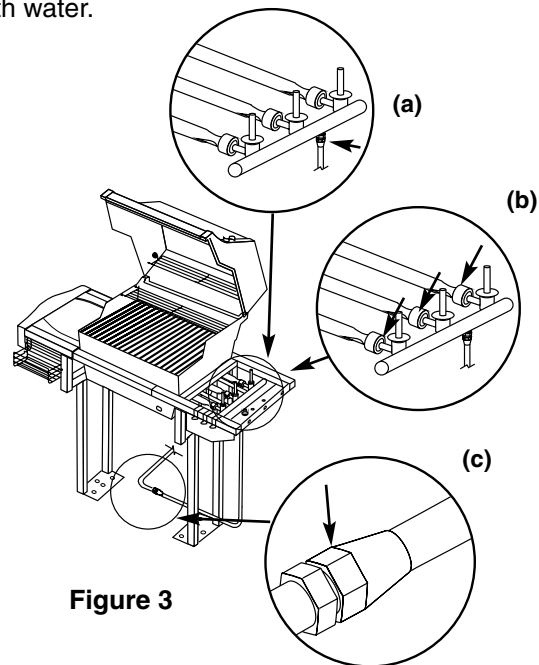

Figure 3
- a) Gas supply line to manifold connection. Figure 3 (a).
- b) Valves to manifold connections. Figure 3 (b).
c) Barbecue gas supply line to natural gas supply connection. Figure 3 (c).